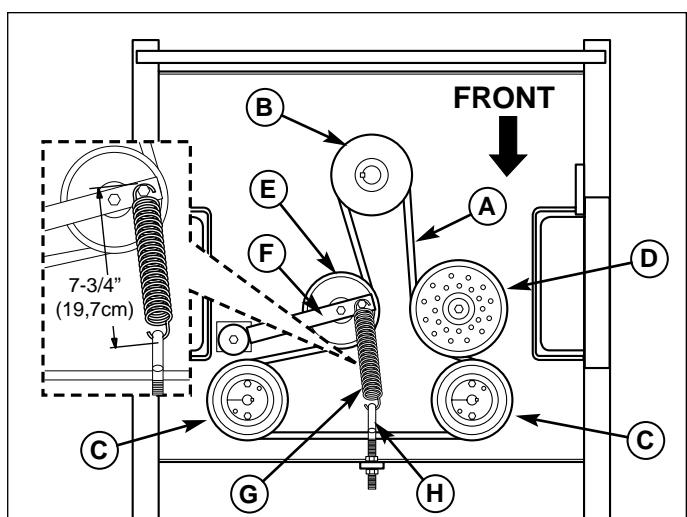

Figure 32. Hydraulic Pump Drive Belt Replacement
3. Loosen the nut towards the front of the machine on the spring anchor hook (H, Figure 32) to release the majority of the belt tension. Use caution and remove the nut to completely release the tension.
5. Reinstall the anchor hook (H) into the anchor tab and loosely fasten the nut. Adjust the spring until a measurement of 7-3/4" (19.7cm) is achieved from the outside of the spring hooks. Tighten nut.